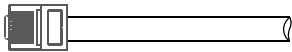

Figure 4.7-3 Remotely close the cable connection
Step 3-2 For Remote Shutdown. Run the cable through the steel plate , Then wire from pins 5 and 6. Table 4.7-1 describes the 6-pin port definition, Wiring is shown in Figure 4.7-3